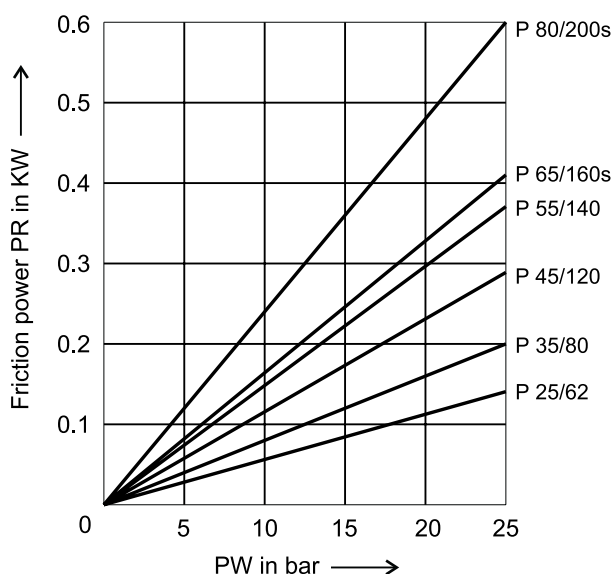

Fig. 17 : Power loss due to double mechanical seals.
In case of single mechanical seal frictional losses are included in the individual performance curves. In case of double seals, the losses for the atmospheric side of mechanical seal are to be added as per fig. 17.
2. Pressure v/s power loss at stuffing box with double & tandom seal at 1450 rpm : refer fig. 17.